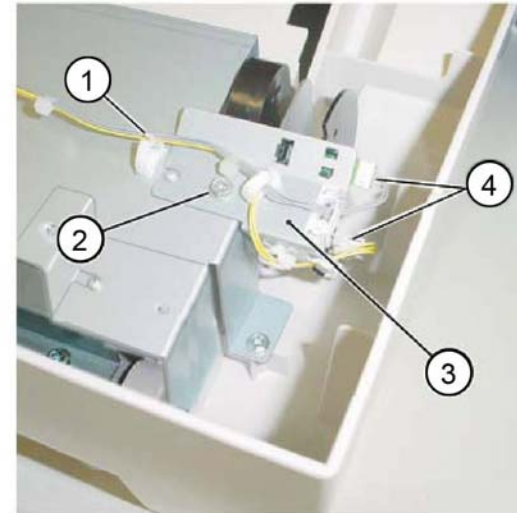

Figure 1 Stacker sensor assembly removal
5. Remove the stacker sensor assembly, Figure 1:
- a. Release the harness from the lamp (1).
- b. Remove the screw (2).
- c. Remove the stacker sensor assembly (3).
- d. Disconnect the sensor connector (4), then remove the sensor from the bracket.